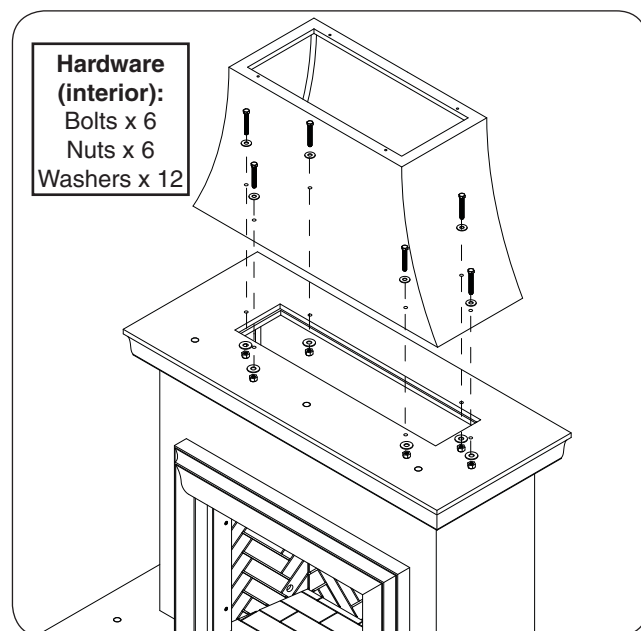

Fig. 18-1 Assemble chimney
1. Place the chimney piece on top of the mantel piece. Carefully align the pilot holes, and insert the hardware (interior hardware kits) in the order shown in Fig. 18-1. Hand tighten, then use two  $\frac{3}{4}$ " open end wrenches (or equivalent) to fasten.